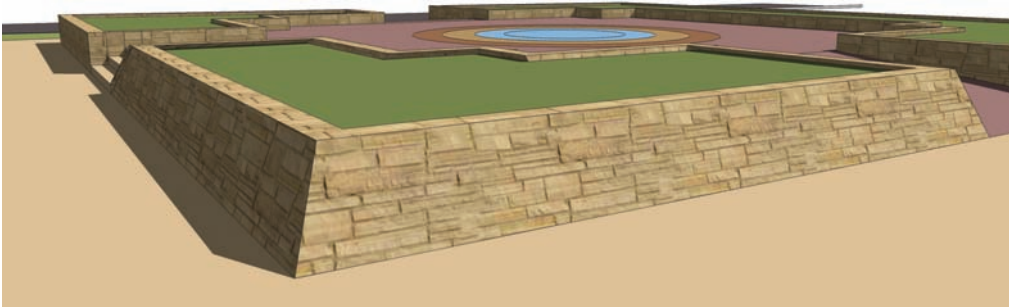

Fig. 7-48: The sloped vertical faces of the planter wall.
- ▶ The vertical wall faces will fold inward with the scaled top surface, creating a sloped wall (Fig. 7-48).